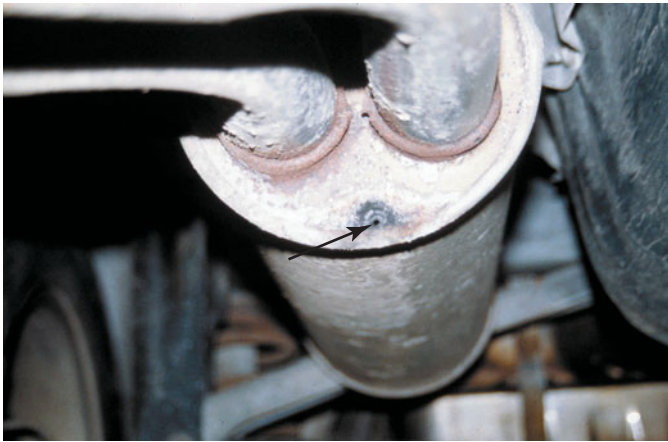

FIGURE 8-21 A hole in the muffler allows condensed water to escape.
Many mufflers are equipped with a small hole in the lower rear part to drain accumulated water. About 1 gallon of water is produced in the form of steam for each gallon of gasoline burned. The water is formed when gasoline is burned in the cylinder. Water consists of two molecules of hydrogen and one of oxygen (H_2O). The hydrogen (H) comes from the fuel and the oxygen (O) comes from the air. During combustion, the hydrogen from the fuel combines with some of the oxygen in the air to form water vapor. The water vapor condenses on the cooler surfaces of the exhaust system, especially in the muffler, until the vehicle has been driven long enough to fully warm the exhaust above the boiling point of water (212°F [100°C]). ● **SEE FIGURE 8-21.**